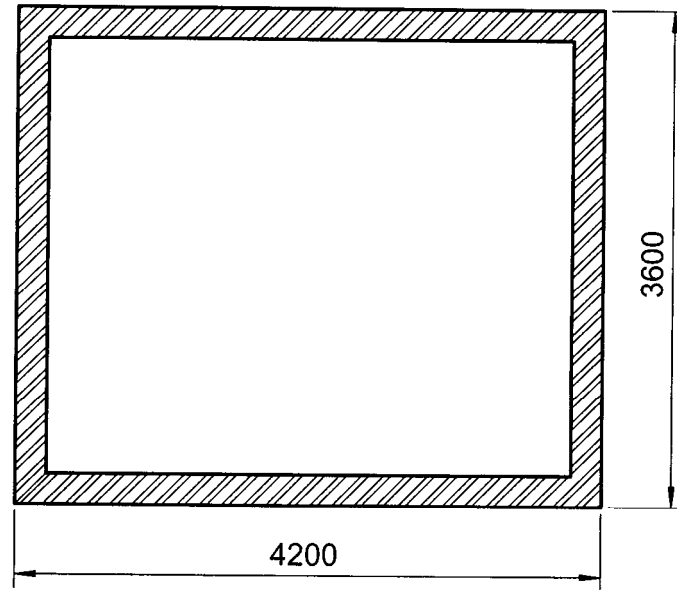

FIGURE 4.8
- 4.8 FIGURE 4.8 represents a drawing of the sub-structure of a strong room in your Civil Technology centre.